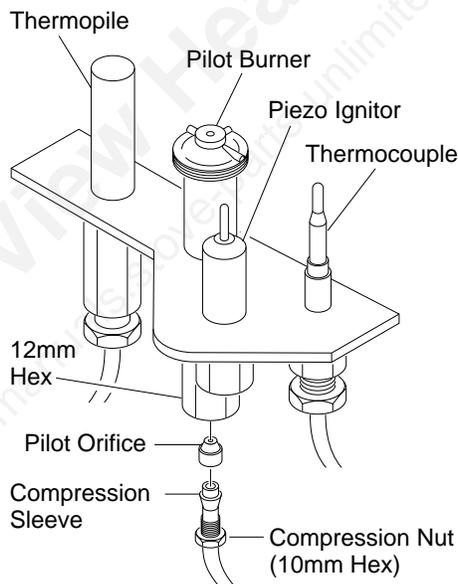

Figure 63 - Removing/Replacing Pilot Orifice
- Convert the pilot burner by changing out the pilot orifice. Remove the compression nut and compression sleeve from the pilot. Remove the pilot orifice from inside the pilot barrel (see Figure 63). Replace with the pilot orifice supplied with the fireplace. **Note:** The new pilot orifice has the number 30 stamped on it for identification purposes.
- Place open end of pilot orifice on top of compression sleeve and carefully slide up inside pilot burner. Tighten compression nut (see Figure 63). **IMPORTANT:** Be careful not to bend or kink aluminum tubing during conversion. Make sure the compression sleeve and pilot orifice are properly mated and aligned before retightening the compression nut.